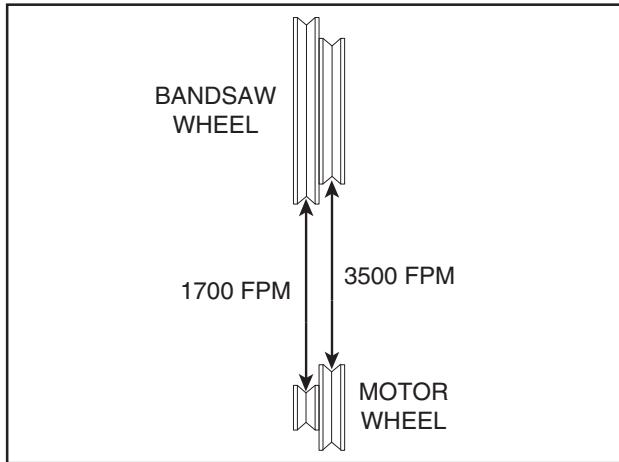

Figure 67. V-belt speeds.
- Refer to **Figure 67** to locate the correct V-belt position for the desired blade speed.